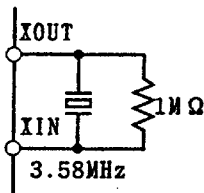

Fig.3
⑥ Power supply stabilization capacitor
⑦ Bias-current setting resistor
⑧ Crystal Oscillator
- Crystal resonator and a resistor should be connected as shown Fig.3 for on-chip oscillator operation.